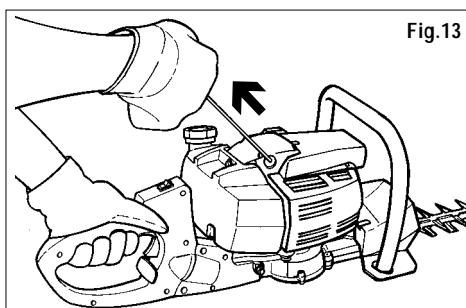

Fig.13
- 7) Pull the starter grip completely as many as 3 times (fig. 13).
- 9) Pull the starter cable (fig.13) until the engine starts.